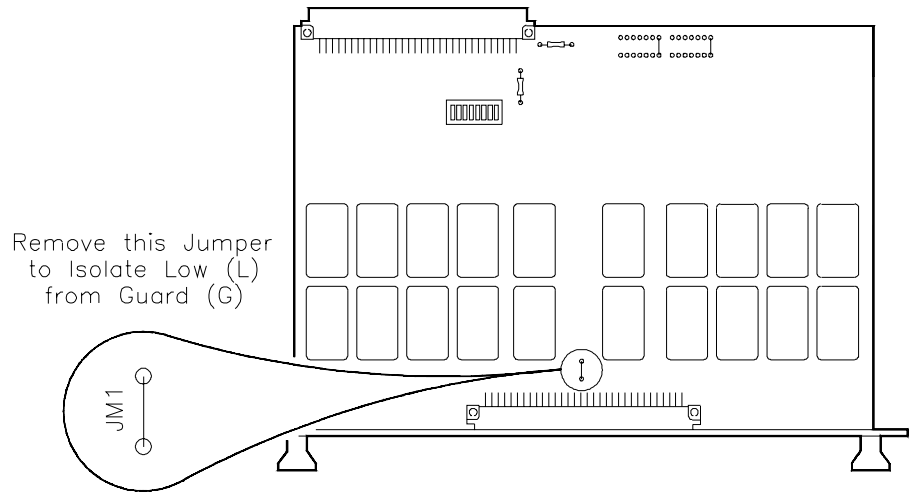

Figure 2-4. Removing the Isolation Jumper
Isolation jumper JM1 connect the Low (L) and Guard (G) commons to each other. To minimize errors caused by lead resistance in the low lines, you may wish to remove the jumper. Use Figure 2-4 to locate the jumper.
new jumpers in the new priority location (Figure 2-4 shows a priority change from 1 to 7). Set the interrupt priority level to the interrupt handler level of the module's commander. The E1300/E1301 commander always handles all interrupt levels. The E1405/E1406 and the E1499A commander's default is to handle interrupt level 1, however, they may be configured to handle any combination of interrupt levels.